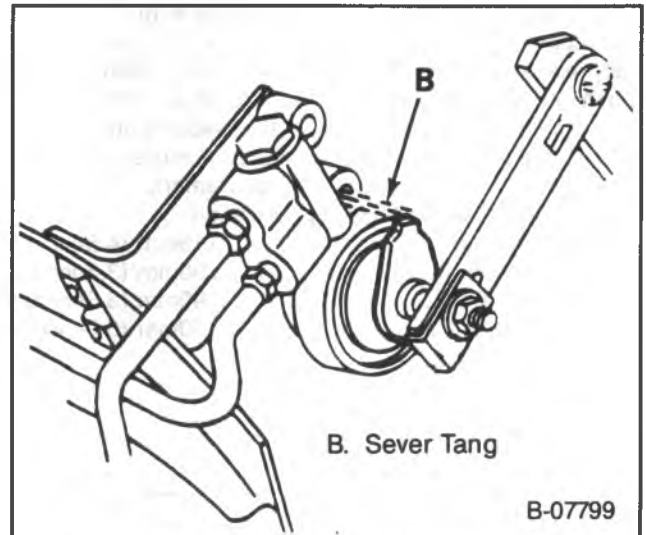

Figure 13 — Severing the Adjustment Tang
8. Sever the tang on the adjustment gage (figure 13).